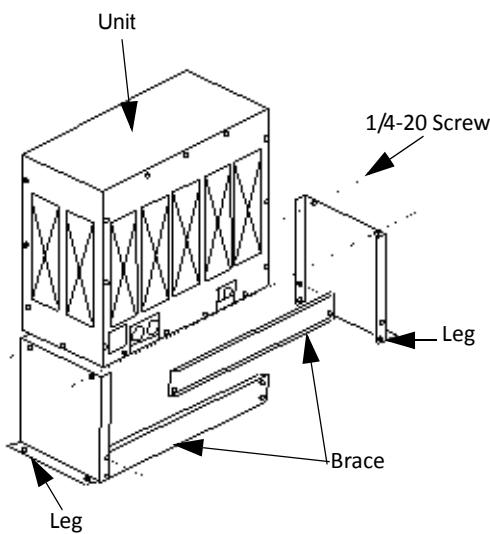
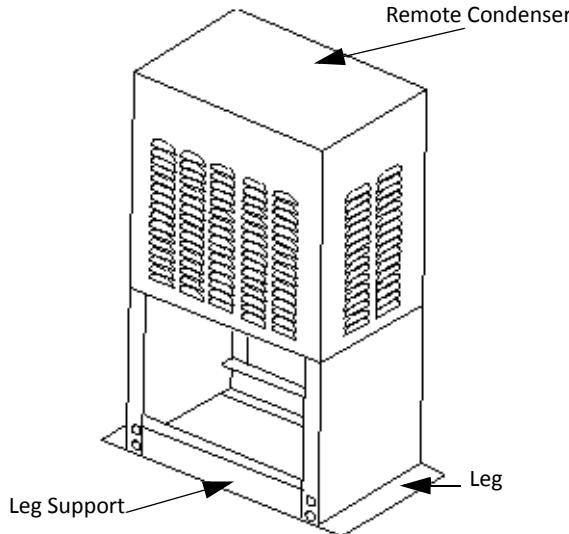

Figure 19.
Figure 20.
- A. Connect legs to condenser cabinet as shown in Figure 19. and Figure 20.